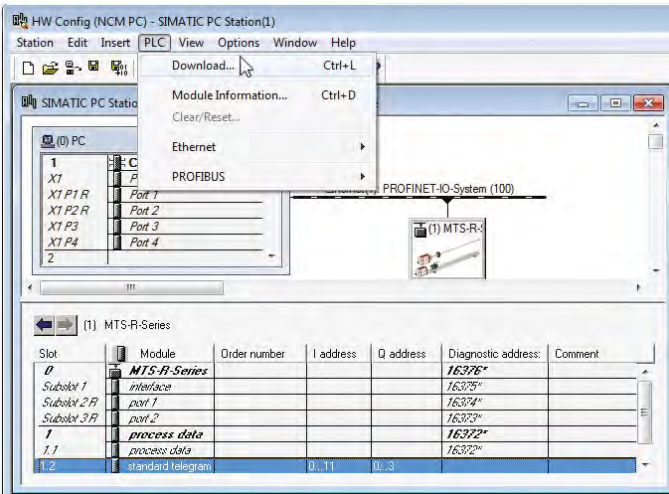

Fig. 76: Transfer settings to the control system (source: Siemens)
4. Select a standard telegram for output of the sensor position (Fig. 76). For this purpose, right-click "Slot 1", Subslot "2". Then, select: